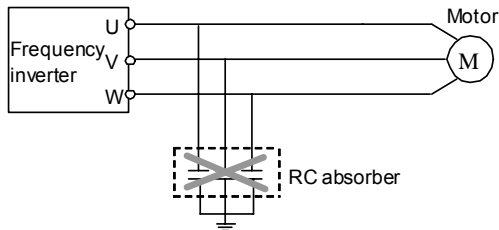

Figure 4-1 Schematic diagram of RC absorbers shall not be connected at output end.
- Absorption capacitor or other RC absorbers shall not be installed at U, V and W output end of the frequency inverter, as shown in Figure 4-1.